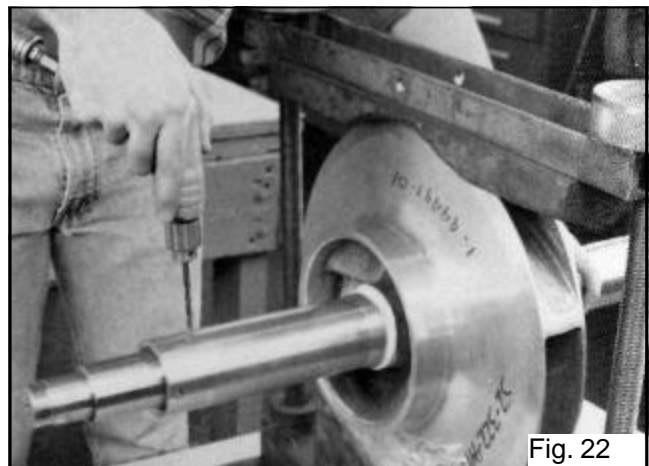

Fig. 22
- Verify that Dimension "A" is maintained, then using a pin spanner wrench and hammer, securely tighten the shaft sleeve nuts. Then, drill a shallow recess in the shaft through the set screw hole in each of the shaft sleeve nuts. Lock each shaft sleeve nut in position with serrated head set screws (3-902-3). (See Fig. 22) A low strength sealant, such as Loctite 271, can be used to retain set screws.